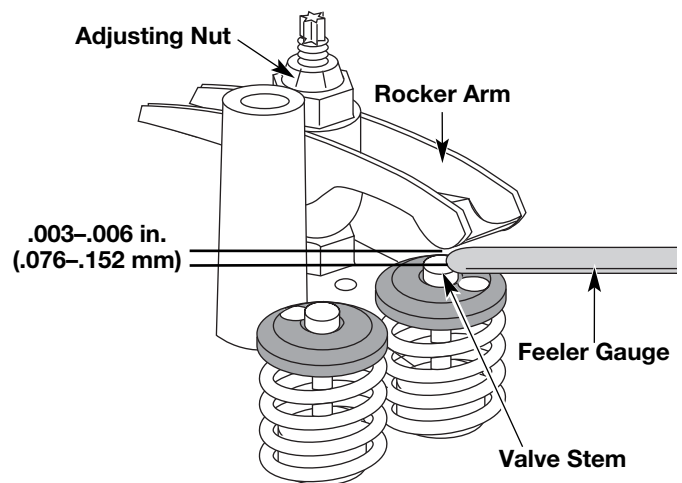

Figure 41
- a. Turn the adjusting nut using a 5/16 inch (8 mm) wrench or nut driver. See Figure 41.